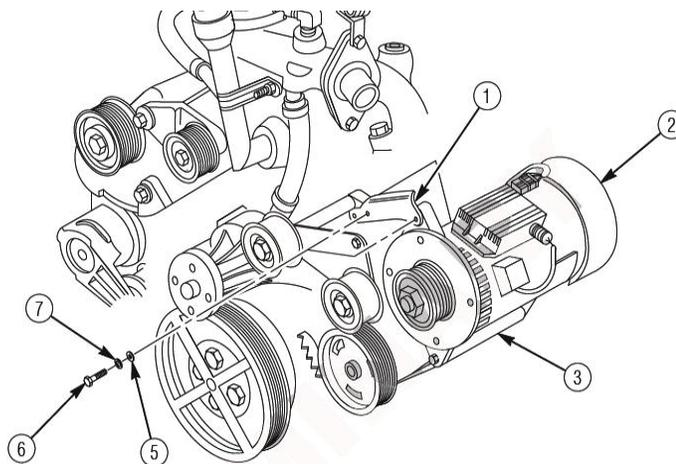

Figure 8
h. Removal of Alternator Adjusting Bracket. Refer to TM 9-2320-387-24-1, Chapter 2 and **Figure 8.**
(1) Remove two screws (6), lock washers (7), washers (5), and alternator adjusting bracket (1) from alternator (2) as shown below. Discard lock washers (7) and retain all other parts.